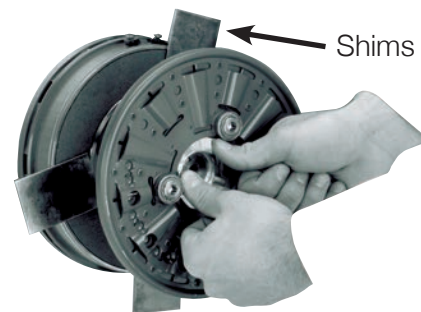

Figure 16 - Armature installation with shims in place.
Step 7: Make sure no power is applied to the brake. Place three steel shims 120 degrees apart on the magnet as shown in Figure 16.
Slip the armature/hub assembly onto the transmission shaft until the armature hub bottoms out on the shims. (See Figure 16) The gap between the armature & magnet must be no more than .125 inch. If the gap is larger than .125 inch, push on the hub to achieve .125 inch gap.